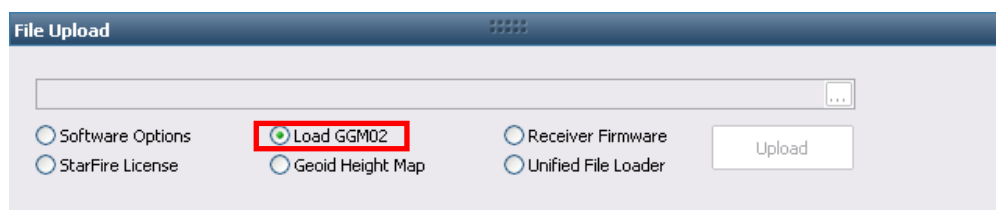

Figure 78: File Upload – Load GGM02
2. Select *Load GGM02* in the *File Upload* window (see Figure 78).